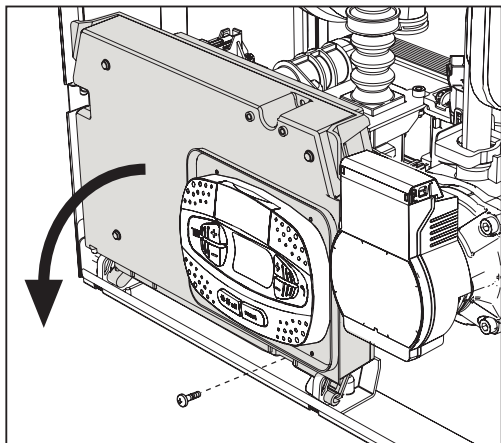
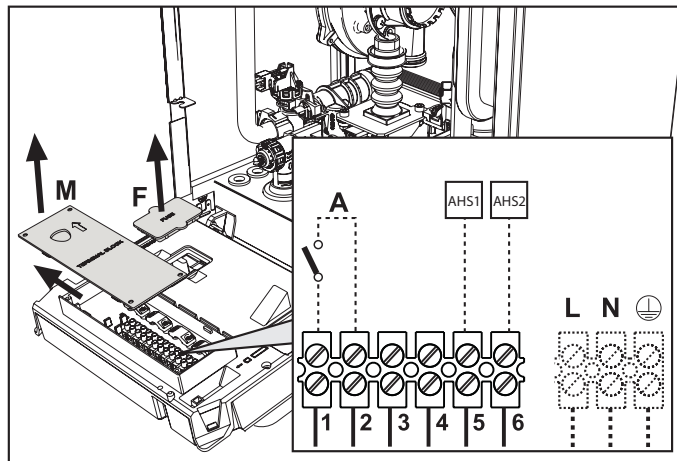

fig. 205 -
fig. 206 -
Remove the front panel (see “15.7 Extraordinary maintenance and replacement of heat pump components” on page 91) to access the terminal block (M) and fuse (F) by proceeding as follows (fig. 205 and fig. 206). The terminals indicated in fig. 206 must be with voltage-free contacts (not 230V). The arrangement of the terminals for the various connections is also given in the wiring diagram in “ELECTRICAL DIAGRAM INDOOR UNIT” on page 99.
20.3 ON/OFF (A fig. 206) configuration